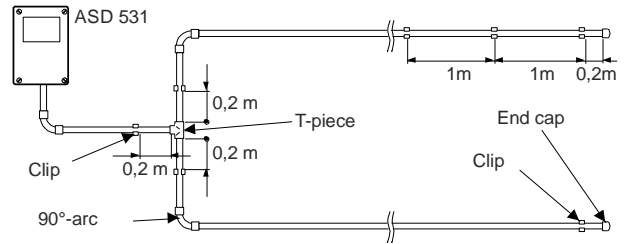

Fig. 33 90° bend, branching point
For straight layout the linear expansion can be up to **80 mm** over the total sampling pipe length (40 m) within the permitted temperature fluctuation range (20°C). It is therefore essential to ensure that the sampling pipe is able to "move" (slide) inside the clips/pipe clamps. A distance of 100 mm (0.1 m) must therefore be maintained between the last clip or fastening clamp and the end cap. See also Fig. 33
- A distance of at least 0.2 m must be maintained from the T-piece to the clips, starting from the branching points of the sampling pipe, Fig. 33.